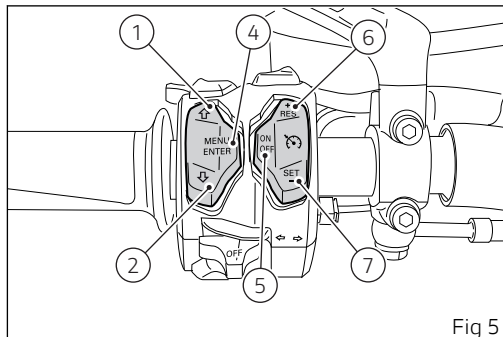

Fig 5
6) CRUISE CONTROL BUTTON - RES (Resume) / + (more) (Fig 5)
7) CRUISE CONTROL BUTTON - SET (Setup) / - (less) (Fig 5)